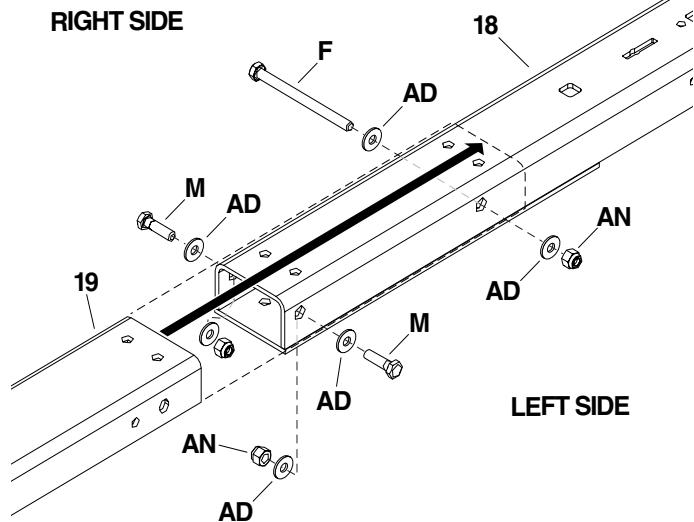

FIGURE 4
- Place the front tongue assembly (19) over the rear tongue assembly (18). Lining up the two forward side holes and the top four holes as shown below.
- Install a 3/8" x 4-1/2" hex bolt (F) and a 7/8" washer (AD) through the second hole, from the right side through front and rear tongue assemblies to the left side as shown below.
- Secure with a 7/8" washer (AD) and a 3/8" nylock nut (AN). Do not fully tighten hardware.
- Install a 3/8" x 1-1/4" bolt (M) and a 7/8" washer (AD) through the first hole from the right side through front and rear tongue assemblies as shown below.
- Secure with a 7/8" washer (AD) and a 3/8" nylock nut (AN) on the inside of the rear tongue assembly channel (18).
- Tighten hardware. See figure 4.